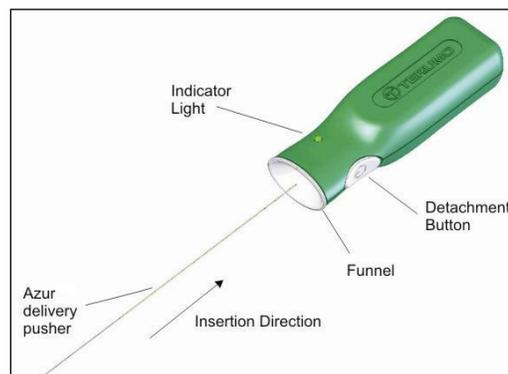

Figure 2 – Azur Detachment Controller
13. Prior to using the device, remove the proximal end of the delivery pusher from the packaging hoop. Use care to avoid contaminating this end of the delivery pusher with foreign substances such as blood or contrast. Firmly insert the proximal end of the delivery pusher into the funnel section of the Azur Detachment Controller. See Figure 2. **Do not push the detachment button at this time.**
33. Connect the proximal end of the delivery pusher to the Azur Detachment Controller by firmly inserting the proximal end of the delivery pusher into the funnel section of the Azur Detachment Controller. See Figure 2.